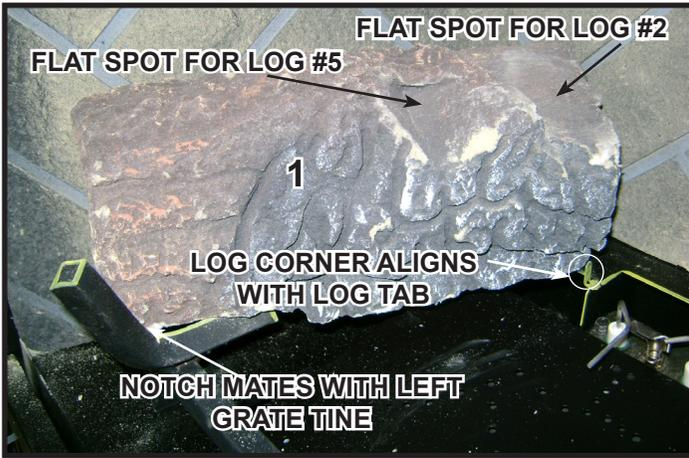
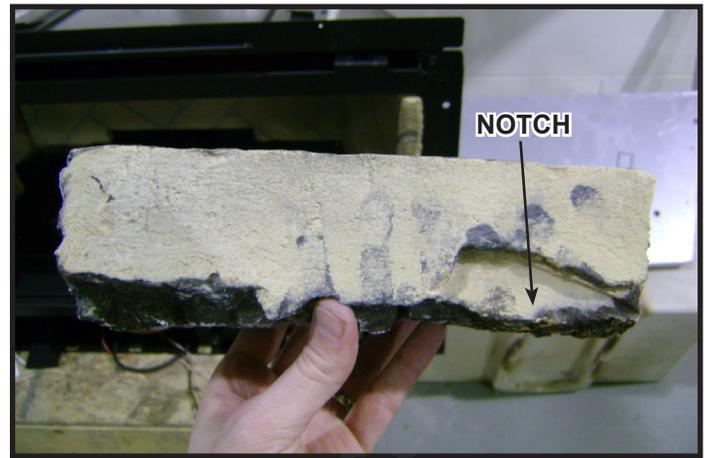
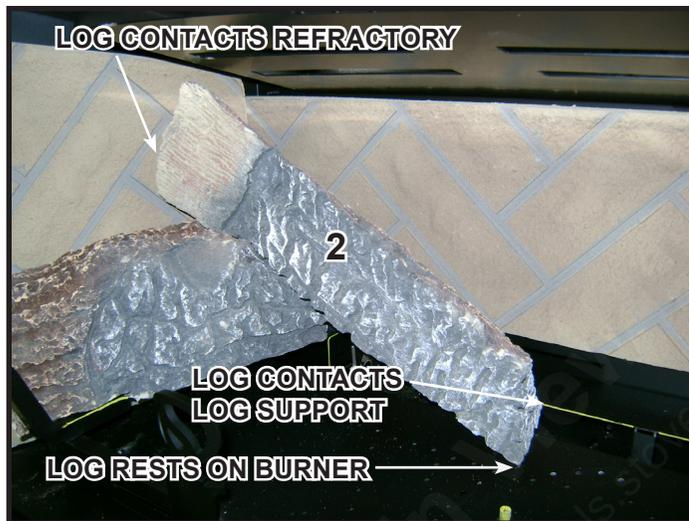

Figure 6. Placement of Log #1
Figure 7. Location of Notch on Log #1
Figure 8. Place Log #2
**Log #1 (SRV2227-703):** Mate the notch located on the bottom of the log, with the left grate tine. See Figure 7. Bend the tab located to the left of the pilot assembly into the vertical position. Rotate the back end of log clockwise until it contacts the log tab as shown in Figure 6.
**Log #2 (SRV2227-702):** Rest left end of log on the flat spot of Log 1. See Figure 6 and Figure 8. The left end of the log should touch the left refractory panel. The right end rests on the burner. Push the right end back, until it touches the edge of the log support.